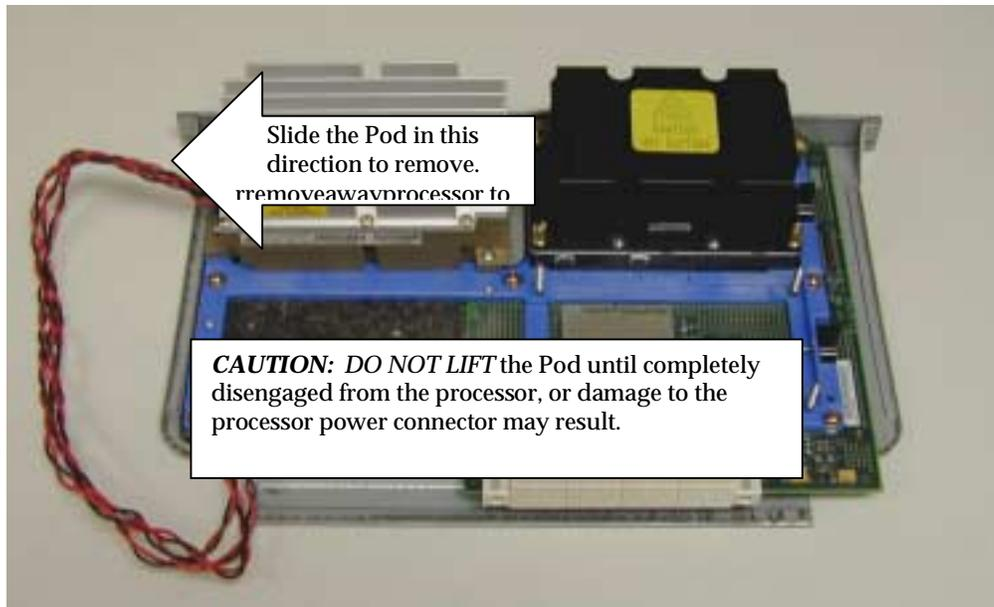

Figure 16 Removing the power pod
3. After removing the four (4) retaining screws from the base of the Power Pod, set the screws safely aside.
4. Disengage the Power Pod from the processor by sliding it outward and away from the processor (as shown in Figure 16).